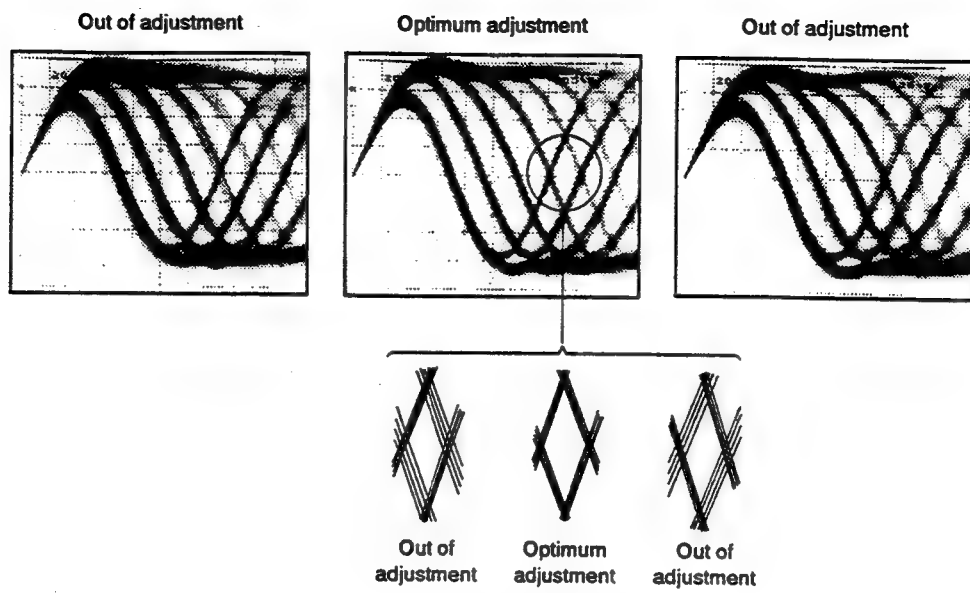

Figure 3 Eye pattern
3. Next, adjust the tangential tilt adjustment screw with a Phillips screwdriver so that the eye pattern (the diamond shape at the center of the RF signal) can be seen the most clearly (Figure 3).